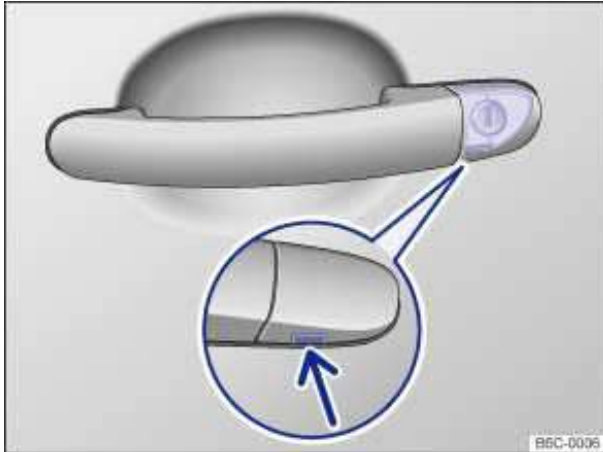

Fig. 173 Door handle on driver door: Concealed lock cylinder.
- Insert the key bit from below into the opening of the cover cap on the driver door ⇒ fig. 173 (arrow) and lift the cover cap off. Grasping the door handle and pulling slightly makes it easier to remove the cap.